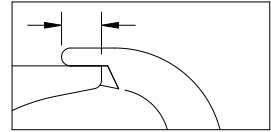

Fig. 6
- > Keeper extends into the bill, 3/16" min. (Fig. 6)